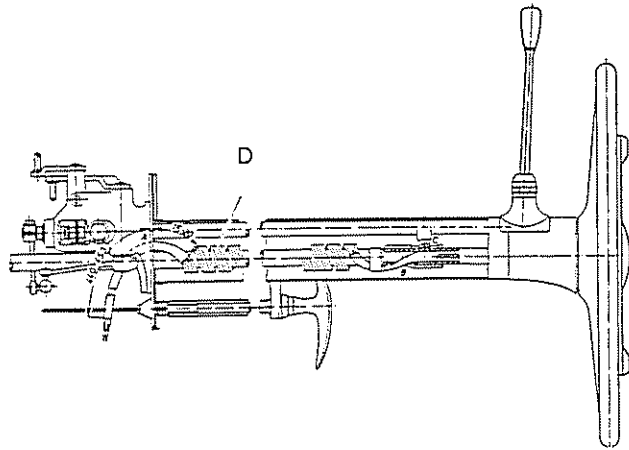

Fig. 46–7/1
11. Pull the cables through the rubber plate on the bearing assembly of the steering wheel shift system until they project about 440–450 mm. The insulating tube of the cable harness should not project into the steering column jacket by more than 15–20 mm (Fig. 46–7/1).
left while on assistant holds the cables at the cable opening A on the bearing assembly (Fig. 46–7/1).
15. Turn the steering wheel hard over to the left and to the right in order to check whether the steering tube is correctly installed. At the same time make sure that on left lack the cables are not under tensile stress at the cable opening A on the bearing assembly by means of the cable clip (see Fig. 46–7/1).